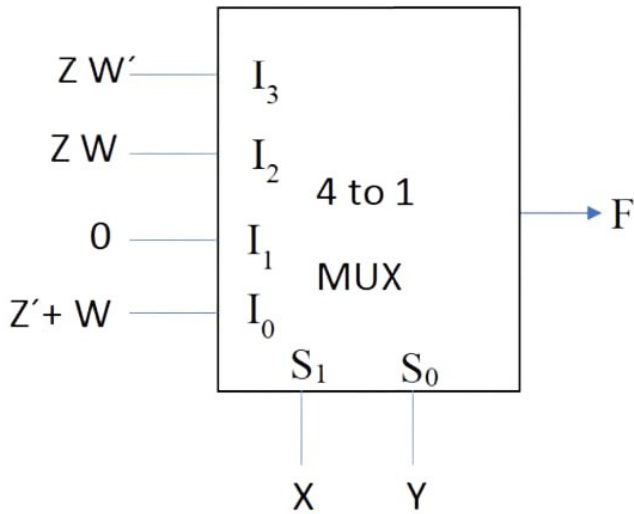

Fig. 4.26: Multiplexer
48. A  $4 \times 1$  multiplexer with two selector lines is used to realize a Boolean function F having four Boolean variables X, Y, Z and W as shown below in Fig. 4.26.  $S_0$  and  $S_1$  denote the least significant bit (LSB) and most significant bit (MSB) of the selector lines of the multiplexer respectively.  $I_0, I_1, I_2, I_3$  are the input lines of the multiplexer. (GATE-IN2021,35) The canonical sum of product representations of F is